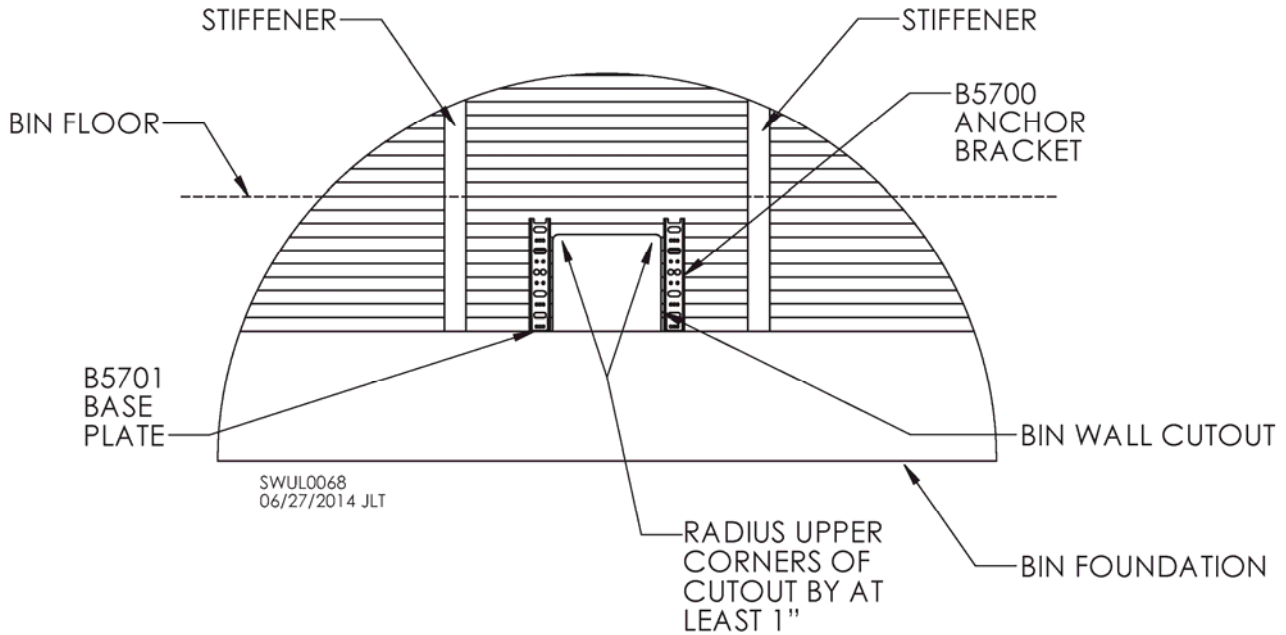

Fig. 12 – 20" cutout reinforced by 22" anchor brackets (B5700) and base plates (B5701).
Bin sidewall should be reinforced around any non-supported cutout wider than 13" (e.g., conveyors) using 22" anchor brackets or similar supports. See Fig. 12. Attach base plates to all 22" anchor brackets using two (2) 3/8 x 1" bolts and two (2) 3/8" flange nuts. Attach 22" anchor brackets to sidewall using same size bolts used in vertical seams of sidewall sheets, with a minimum of 3/8" bolt.